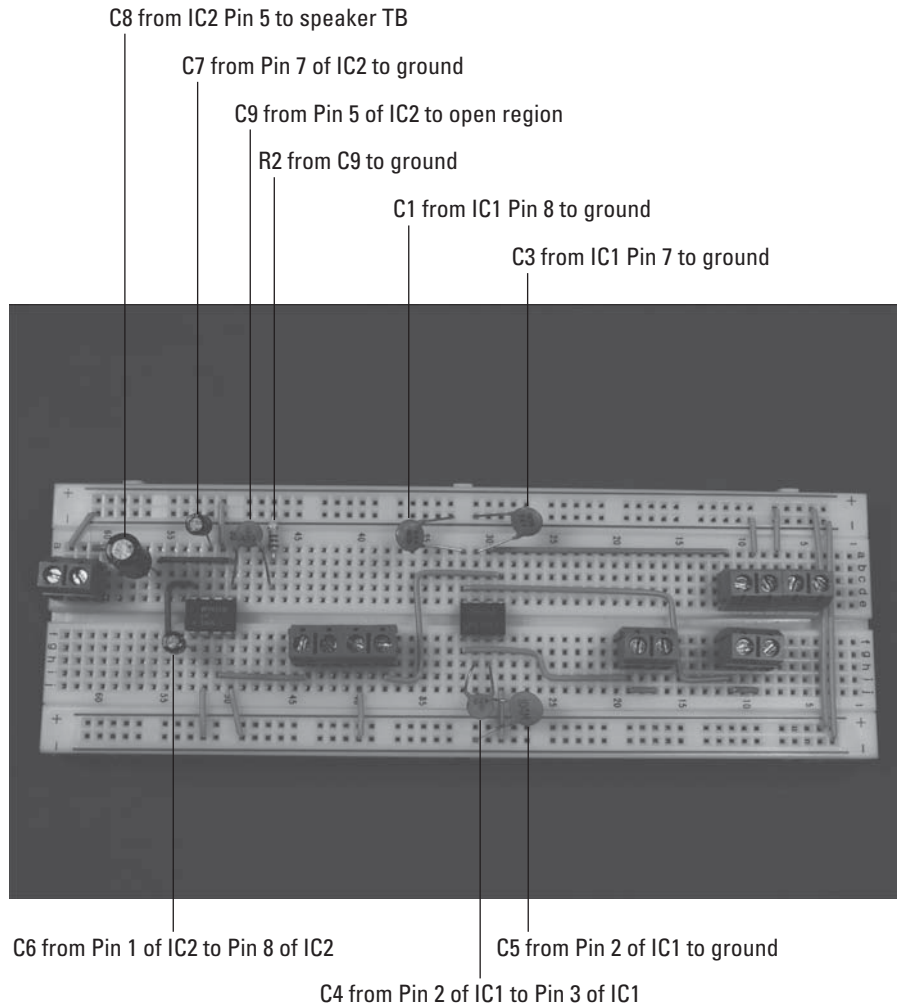

Figure 8-9: Insert resistors and capacitors on the breadboard.
5. Insert two 0.047 microfarad capacitors (C4 and C9), two 10 microfarad capacitors (C6 and C7), one 100 microfarad capacitor (C8), two 0.001 microfarad capacitors (C1 and C3), one 0.1 microfarad capacitor (C5), and one 10 ohm resistor (R2) on the breadboard, as shown in Figure 8-9.